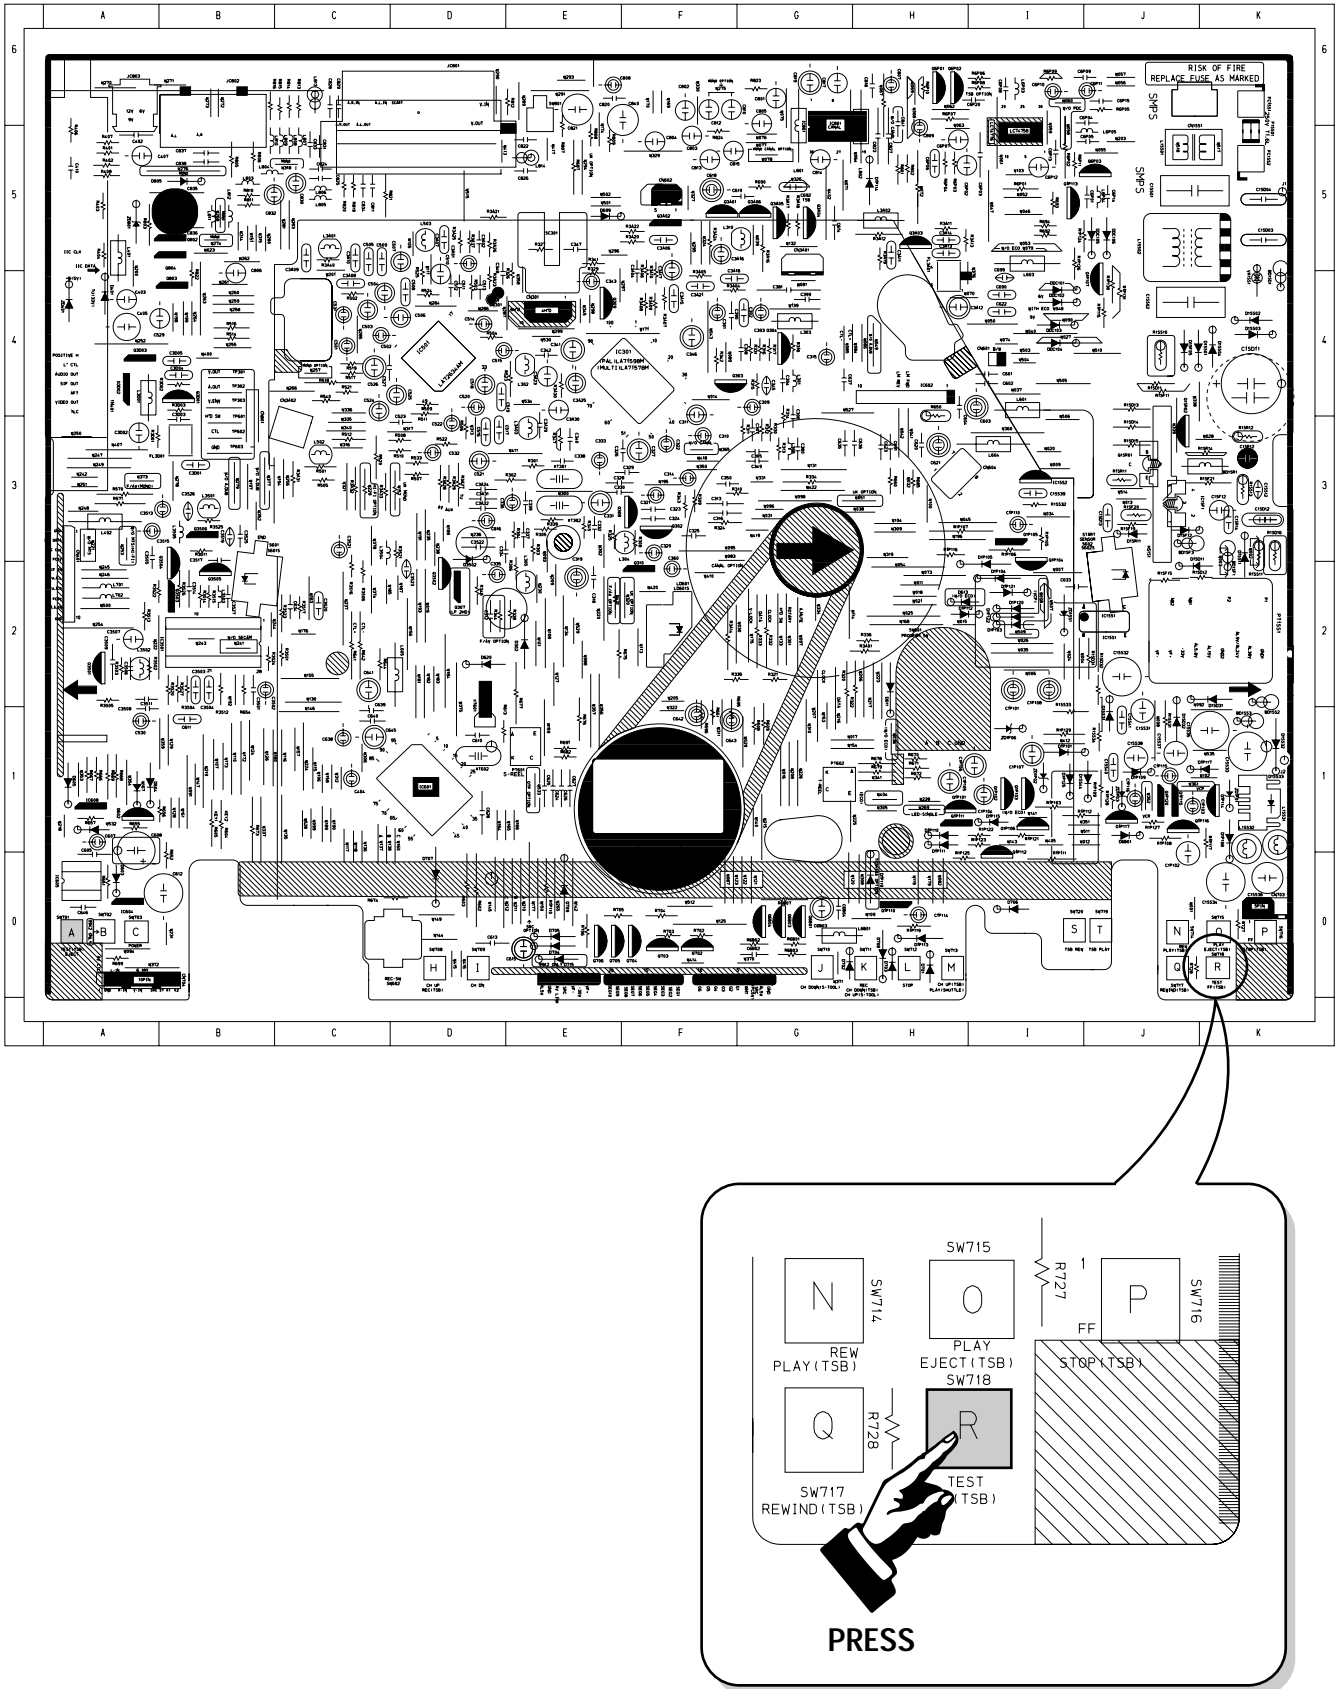

Fig. 2-2 Main PCB (Top View)
- 2) Press the “SW718 (TEST)” button on Main PCB to set the adjustment mode. (See Fig. 2-2)
- 1) Press the “SW718 (TEST)” button on Main PCB to set the adjustment mode. (See Fig. 2-2)